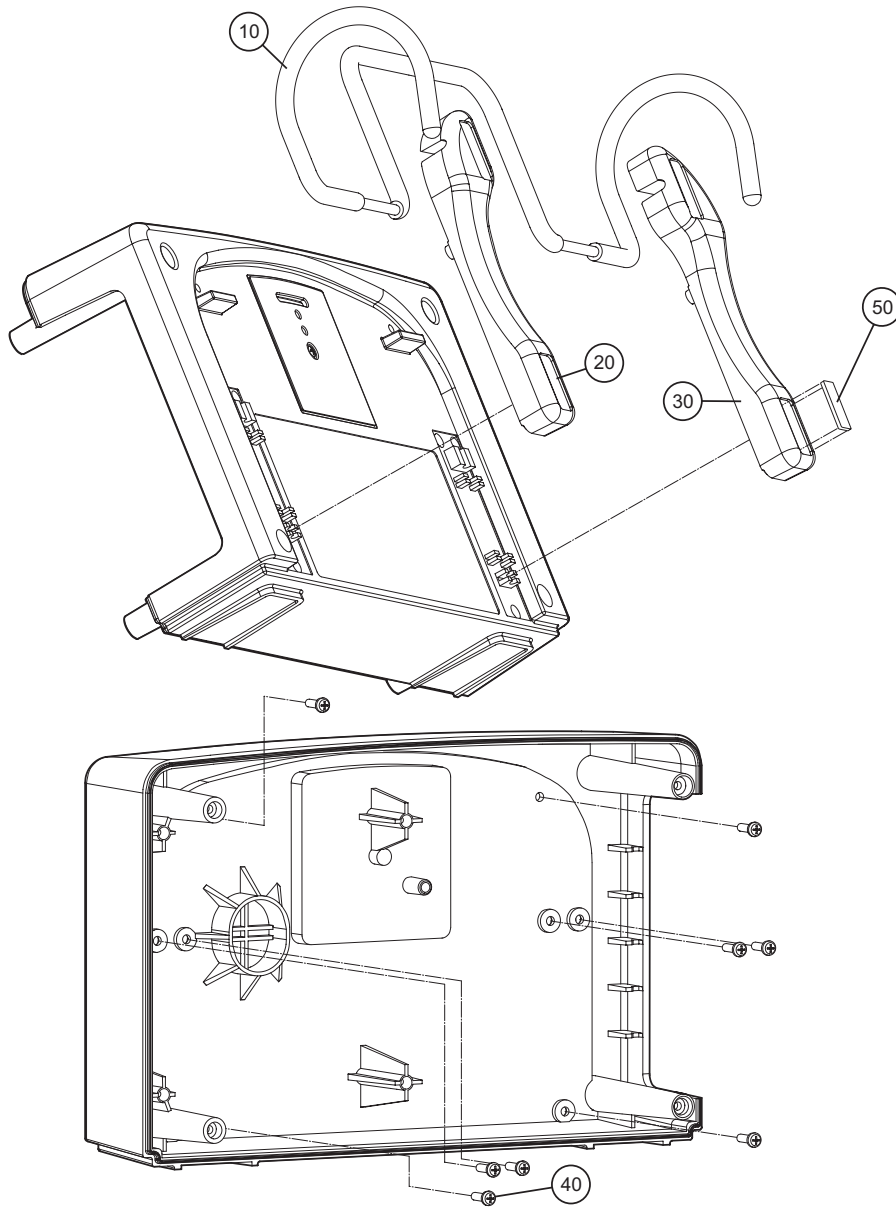

Figure 4 - Replacing the New Style Bed Hook
- 8.3 Hold a hook plate (Fig 4, Item 20 or 30) in position and remove the four securing screws (Fig 4, Item 40) from the inside of the pump rear case. Release the hook plate from the rear case and lift clear.
- 8.4 If necessary repeat Section 8.3 to remove the other hook plate and bed hook (Fig 4, Item 10).
- 9.1 Assembly of the new Pump Filter is in the reverse order of disassembly. Make sure the slots in the Filter Housing Plates (Fig 4, Item 20) are uppermost in the positions shown in Fig 4.
- 9.2 Lay the left-hand (Fig 4, Item 20) and the right-hand (Fig 4, Item 30) brackets on a hard flat surface with their rubber pads face down and their shaped heads pointing inward.
- 9.3 Ensure the bed hook (Fig 4, Item 10) is correctly placed to the left-hand and right-hand slots where the coating has been removed. Firmly press home the bed hook until it clicks into place.